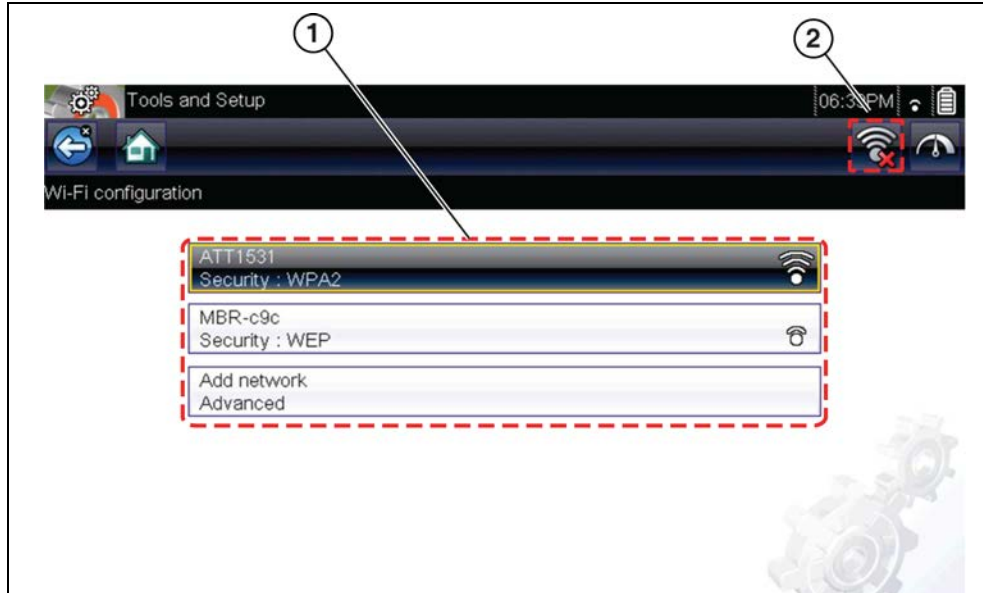

Figure 13-2 Wi-Fi Configuration Screen
3. The Wi-Fi icon will change to the Wi-Fi symbol with “x” mark (Figure 13-2), indicating Wi-Fi is on.
4. Select your network. Use the scroll feature to show all active connections (Figure 13-2).